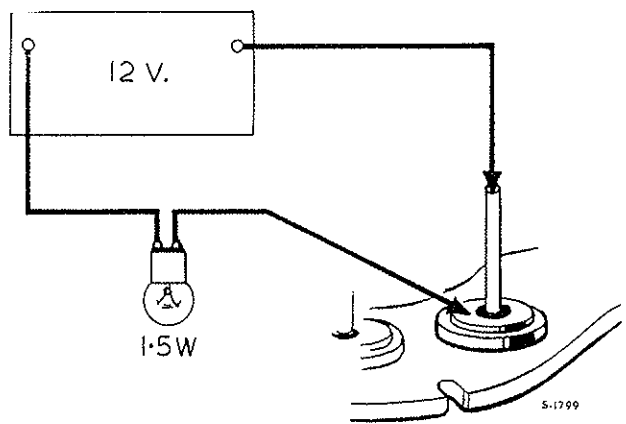

Fig. N.14. Simple diode test
1. Each diode can be checked by connecting it in series with a 1.5 watt test bulb across a 12 volt D.C. supply and then reversing the connections (see Fig. N.14).